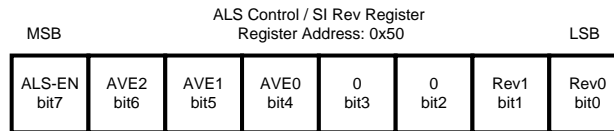
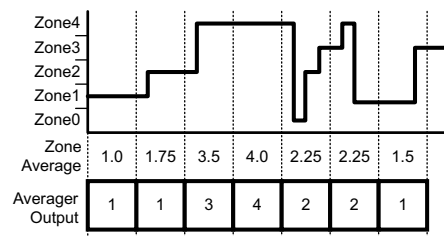

Figure 25. ALS Control / Silicon Revision Register Description
Figure 32. Averager Calculation
The ALS averaging time is the time over which the averager block collects samples from the A/D converter and then averages them to pass to the discriminator block (see Figure 32). Ambient light sensor samples are averaged and then further processed by the discriminator block to provide rejection of noise and transient signals. The averager is configurable with 8 different averaging times to provide varying amounts of noise and transient rejection (see Figure 25). The discriminator block algorithm has a maximum latency of two averaging cycles, therefore the averaging time selection determines the amount of delay that will exist between a steady state change in the ambient light conditions and the associated change of the backlight illumination. For example, the A/D converter samples the ALS inputs at 16 kHz. If the averaging time is set to 800 ms, the averager sends the updated zone information to the discriminator every 800 ms. This zone information contains the average of approximately 12800 samples (800 ms \times 16 kHz). Due to the latency of 2 averaging cycles, when there is a steady-state change in the ambient light, the LED current begins to transition to the appropriate target value after approximately 1600 ms have elapsed.
- The averager always rounds down to the lower zone in the case of a non-integer zone average (1.2 rounds to 1 and 1.75 also rounds to 1). Figure 32 shows an example of how the Averager will make the zone decisions for different ambient conditions.